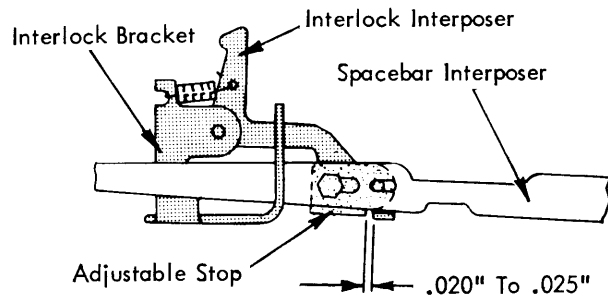

FIGURE 125. Adjustable Stop
- c. Position the adjustable stop on the spacebar interposer forward or back so that .020" to .025" clearance will exist between the stop and the interlock interposer when the machine is half-cycled and the spacebar interposer is latched at rest (Fig. 125).